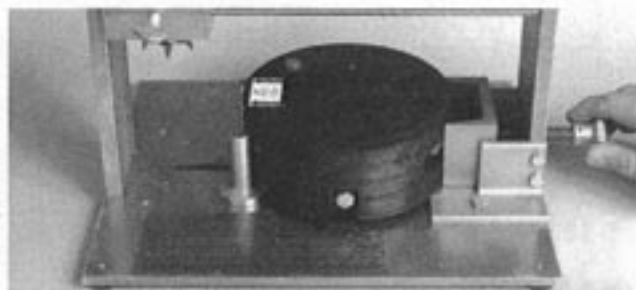

Figure 9 — Placing Power End Plate in Power Cutter
6.04 Back off clamp screw until End Plate can be placed in cutter. End Plate should lie on top of flanges of stop-posts and clamp-jaw guides. Figure 9.